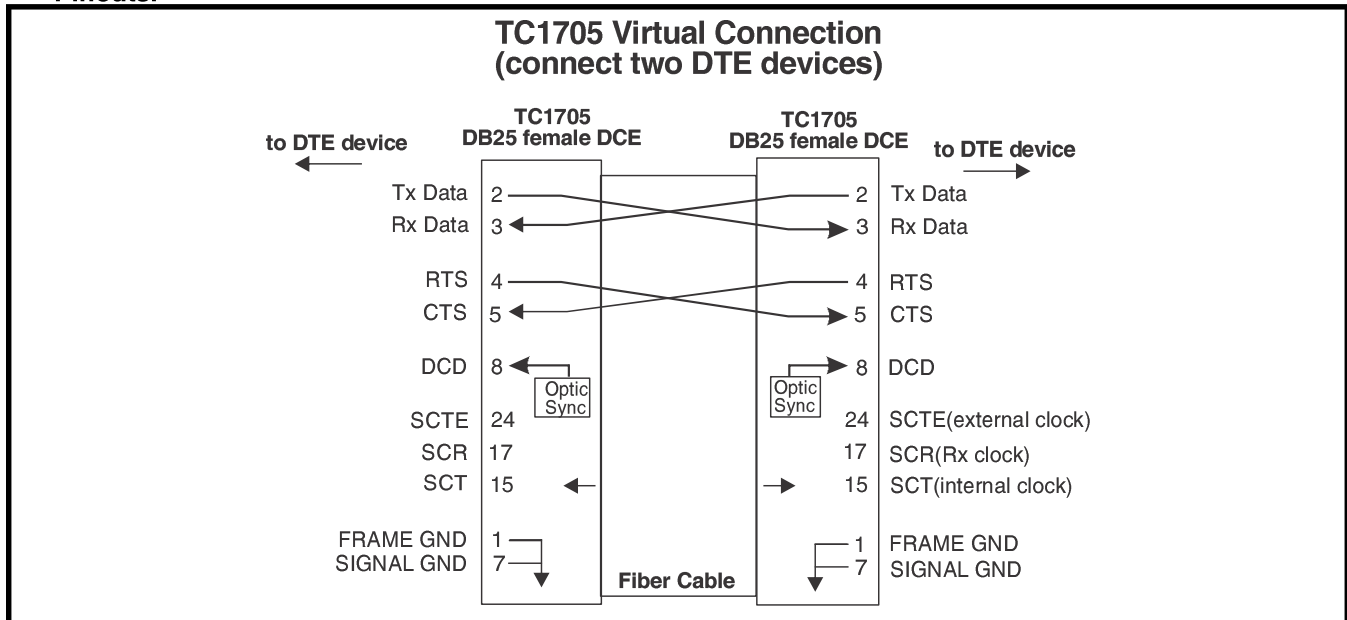

Figure 1. TC1705's Asynchronous Pin Assignments & Virtual Connections
**DIP #3:** In the "Up" position, the unit is in the internal clock mode. When in the "Down" position, the unit is in slave clock mode. The internal clock signal is transmitted to the user's equipment through pin 15 ( see figures 1 and 2) when the unit is configured as a DCE device.